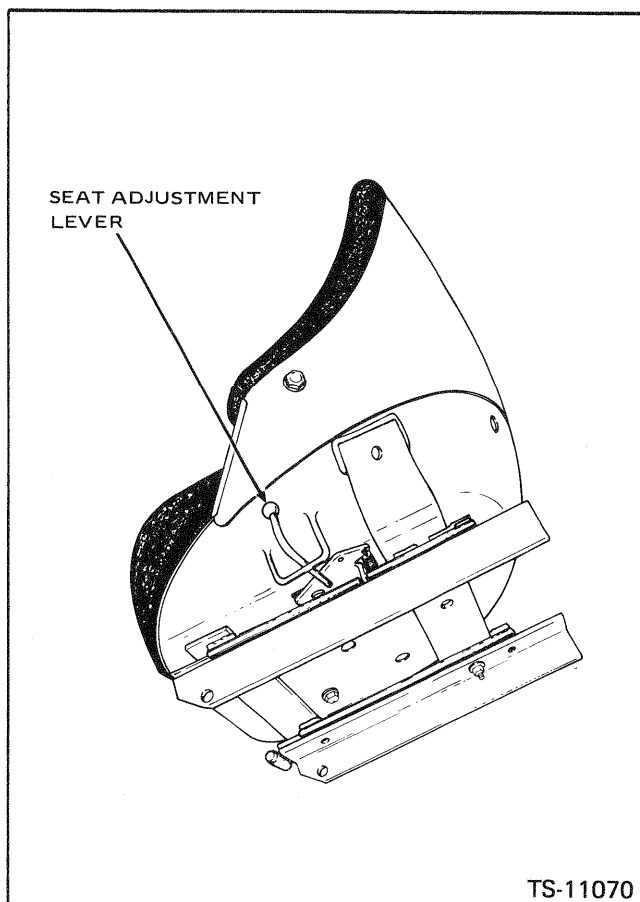

Fig. 13-1 Operators Seat Adjust Lever
**Adjust and Lubricate the Operator's Seat** — The operator's seat can be shifted forward or backwards to suit the individual, by moving the lever on the left hand side of the seat forward and shifting the seat to the desired position. Fig. 13-1. An additional adjustment in the height of the seat is offered. This can be done by removing the seat bracket mounting bolts and raising or lowering the seat to the desired position. Machines equipped with a rotating seat, have a hand screw located at the front of the seat to lock-in the desired position. Oiling of the release mechanism, track assemblies and pivot points will keep them operating freely.